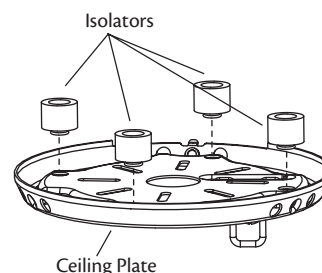

Figure 8 - Inserting the isolators into the ceiling plate
3. Your fan comes with four neoprene noise isolators. Position the isolators between the ceiling plate and ceiling by inserting the raised areas on each isolator into the holes in the ceiling plate. Refer to Figure 8.